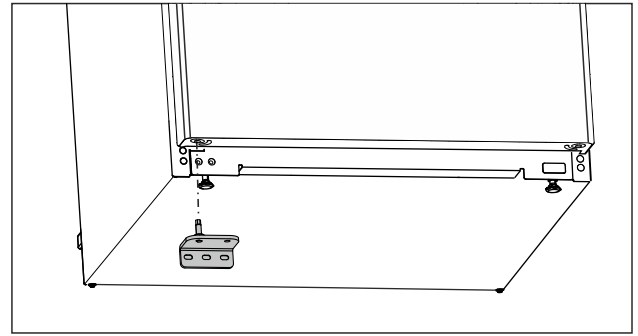

Fig. 16
- Insert the lower swap bearing block on the opposite side. (see Fig. 16)